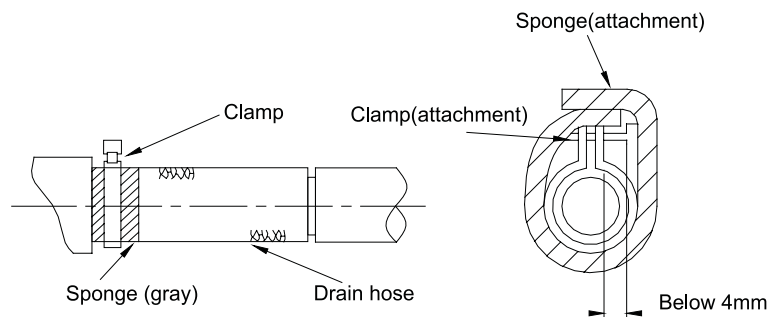

Figure 1-1-9
- Purchase general-purpose hard PVC pipe locally to be used as the drainage pipeline. When carrying out connection, place the end of the PVC pipeline into the drainage hole. Use flexible drainage tube and tighten it with thread loop. Never use adhesive to connect the drainage hole and the flexible drainage tube. (As shown in Figure 1-1-9)